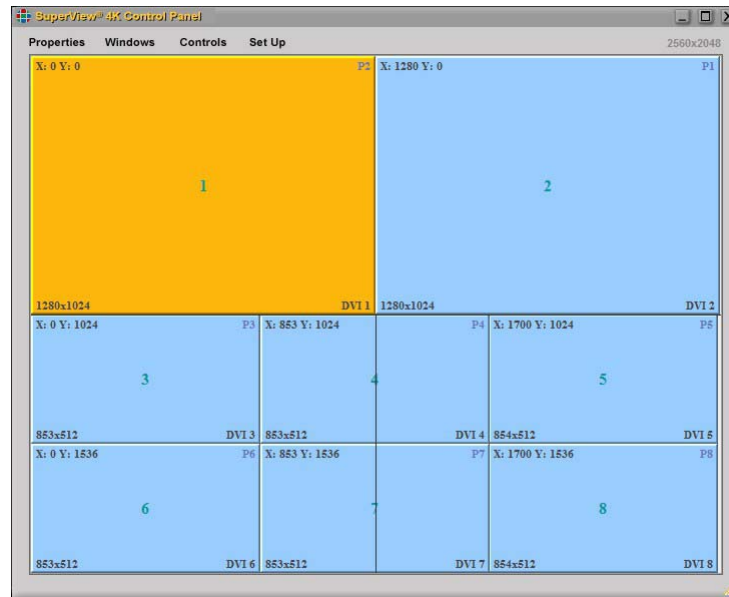

Figure 2-10 SuperView 4K WCP 2x2 Virtual Screen
The WCP **Virtual Screen** launches displaying the current configuration (see Figure 2-10). This window provides access to other floating windows for control of *SuperView 4K* functions.
1. On the WCP **Virtual Screen** (Figure 2-10), click **Setup**.